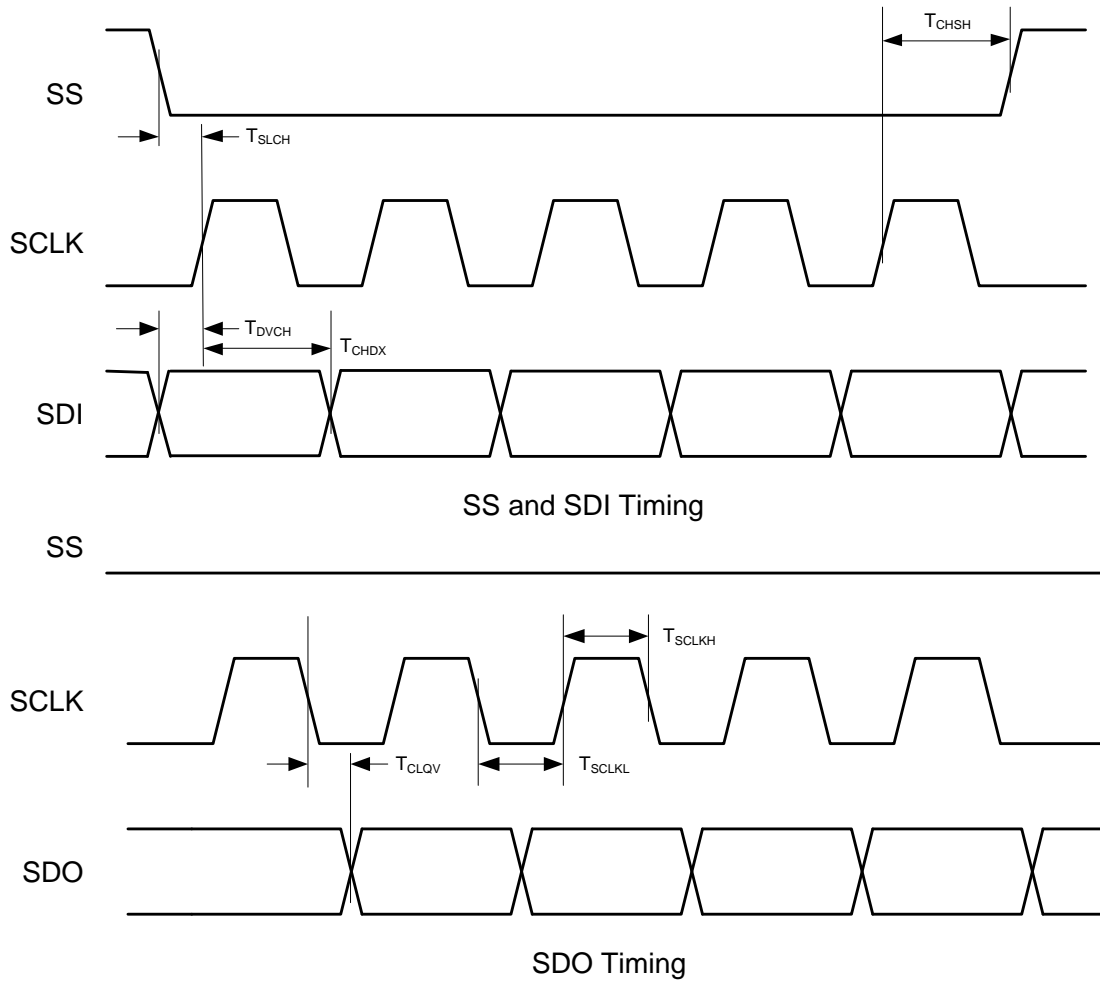

Figure 4.14. SPI Flash Memory Timing
**Note:** Refer to Figure 4.14 on page 30.